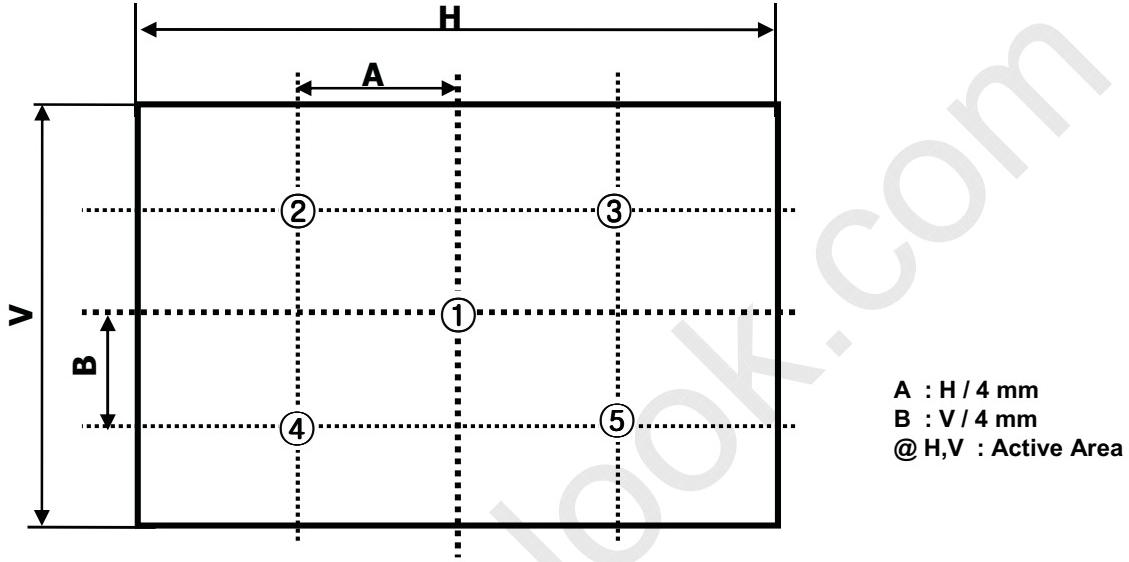

FIG. 2 5 Points for Luminance Measure
2. Surface luminance is determined after the unit has been 'ON' and 1 Hour after lighting the backlight in a dark environment at  $25\pm2^\circ\text{C}$ . Surface luminance is the luminance value at center 1-point across the LCD surface 50cm from the surface with all pixels displaying white. For more information see the FIG. 2.
For more information, see the FIG. 2.